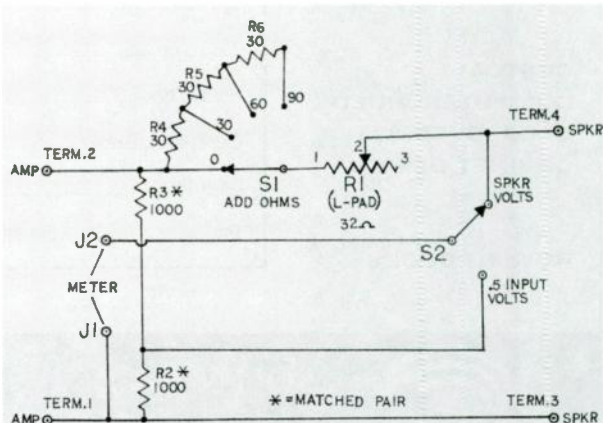

FIGURE 1: Handy-Dandy schematic.
One advantage of the Handy-Dandy is that it is unnecessary to maintain a constant output voltage from the signal generator. Instead, you can apply an input voltage of approximately 1V from an amplifier connected between the signal generator and the device. A built-in voltage divider cuts the input voltage in half when switch S2 is in the 0.5 INPUT VOLTAGE position (Fig. 1 and Photo 1). This voltage is fed to the volt-ohmmeter (VOM) for a reference voltage, and then you switch S2 to SPKR VOLTS and read the voltage across the speaker terminals. Adjust R1 until the two voltages are the same. Then the dial reading on S1 is the impedance at that frequency. Perform this
5. Wire the device as shown in the schematic (*Fig. 1*). Twenty-gauge stranded wire works well for this purpose. Make the wires sufficiently long to permit folding the cover to one side for wiring, servicing, or adjustment. Check the wiring to make sure there are no errors. Bundle the wires together as needed (*Photo 2*).